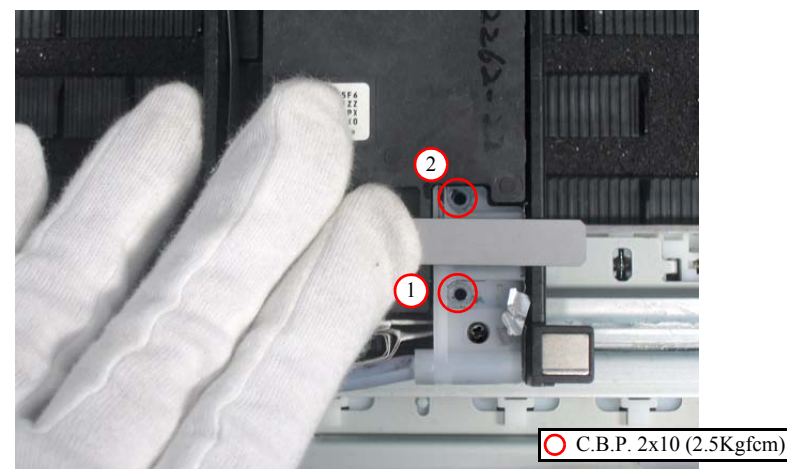

Figure 4-68. Assembling the Printhead (5)
8. Tighten the screws (x2) in order shown in Fig. 4-68 while holding the thickness gauge, and secure the Ink Supply Tube Assy to the Printhead.